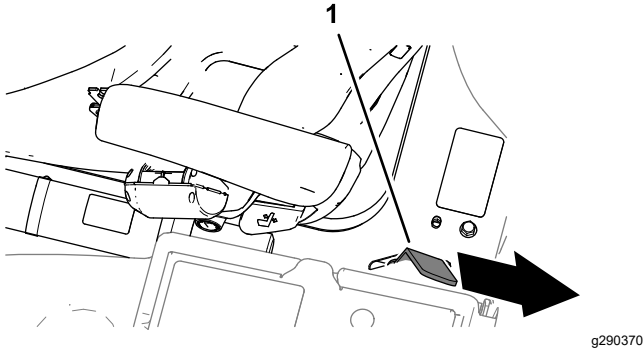

Figure 44
- Fully lower the platform and move the platform-latch handle toward the rear of the machine until the latch hooks fully engage the locking bar (Figure 44).